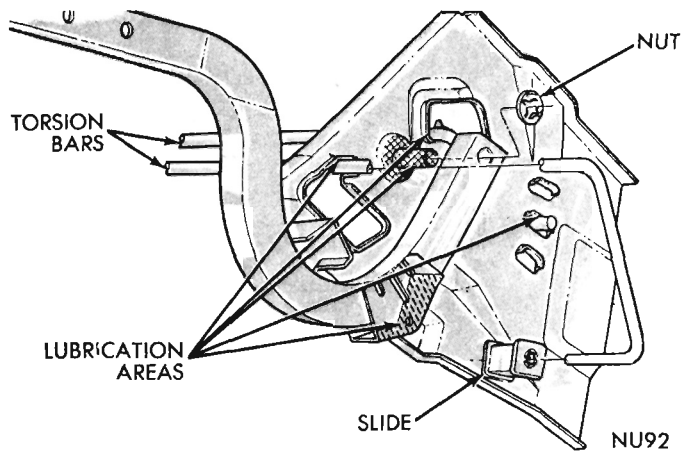

Fig. 33 - Deck Lid Torsion Bar
- (1) Remove deck lid assembly and disengage torsion bar from hinge (Fig. 33) being removed.
- (2) Remove hinge to hinge bracket spring nut and remove hinge.
- (1) Remove torsion bar (Fig. 33) from adjust-